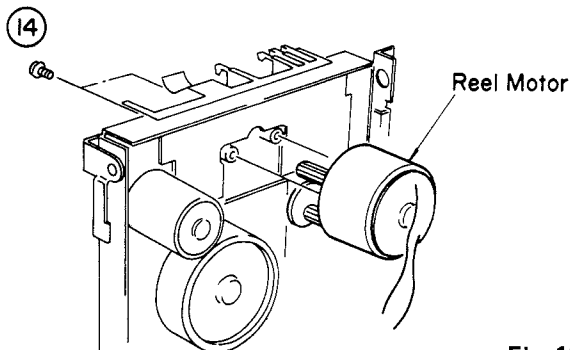

Fig. 10
- d. Remove 2 screws (14) in Fig. 10 and replace the reel motor.